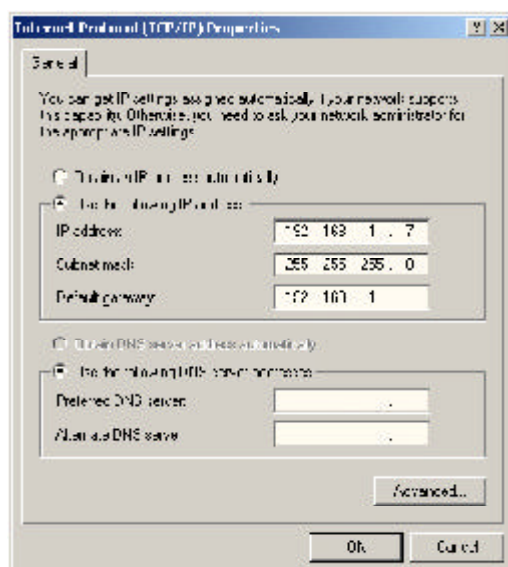

Fig. 2.2
Step 6 Enter the IP address of your **Default gateway**. See Fig. 2.2